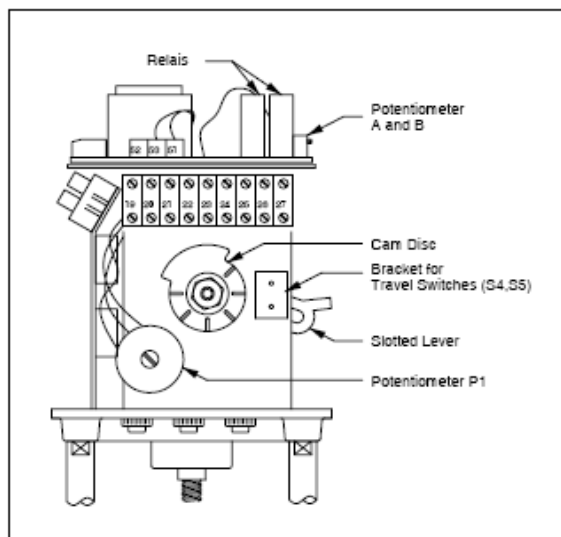

Fig.4
- Turn potentiometer P1 (Fig.4) counter clockwise until he stops.